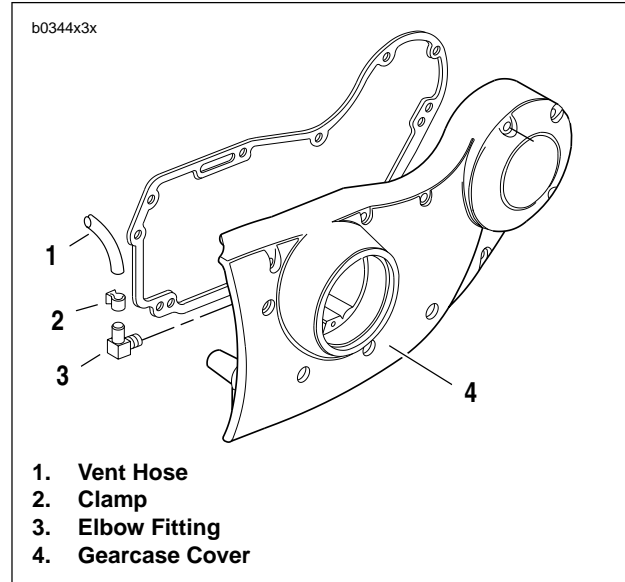

Figure 3-47. Vent Hose Connection (Typical)
After diverging from the feed and return hoses, the vent hose is routed beneath the starter. It continues on to the right side of the motorcycle. See Figure 3-47. Here the vent hose (1) connects to an elbow fitting (3) on the gearcase cover (4).